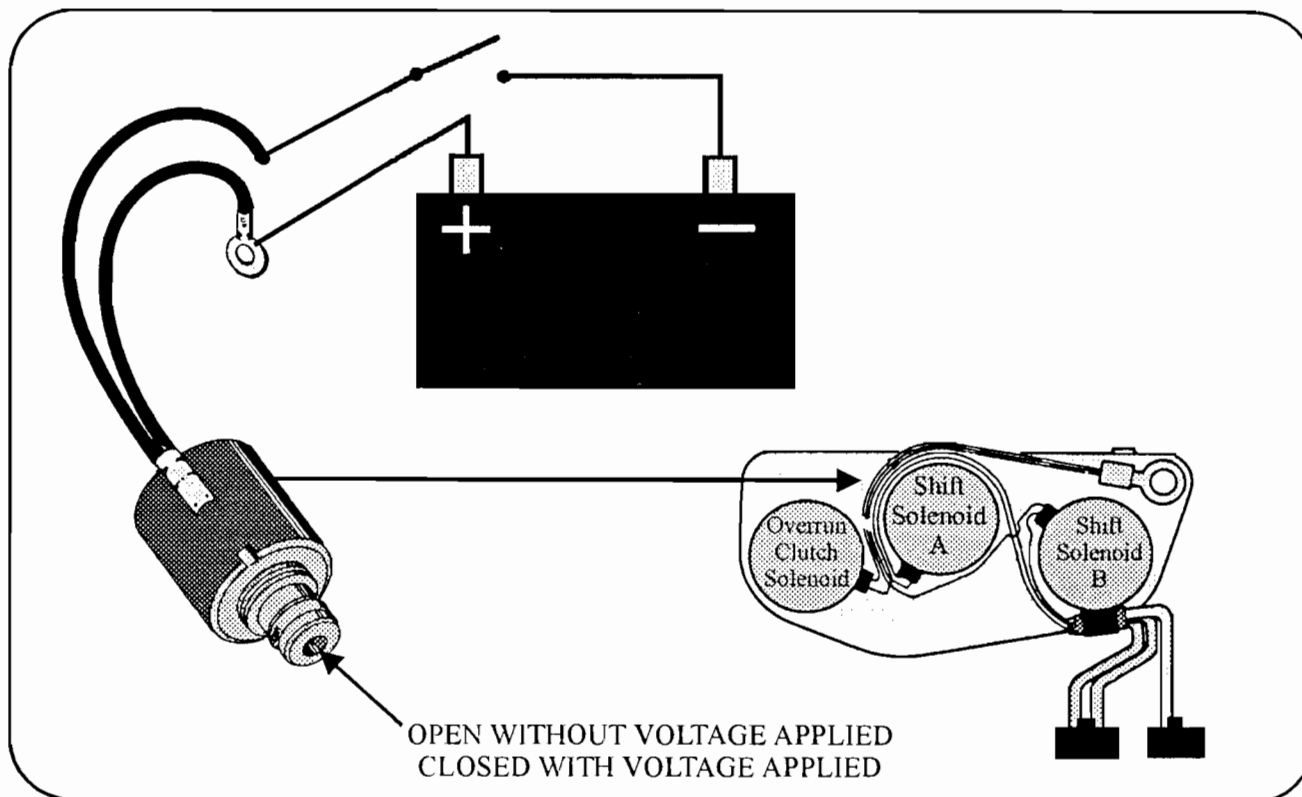

Figure 61
1. Check shift solenoid A resistance. It should be 20 - 40 ohms to ground. Check shift solenoid A with battery voltage to make sure that it closes when it is energized. See Figure 61.